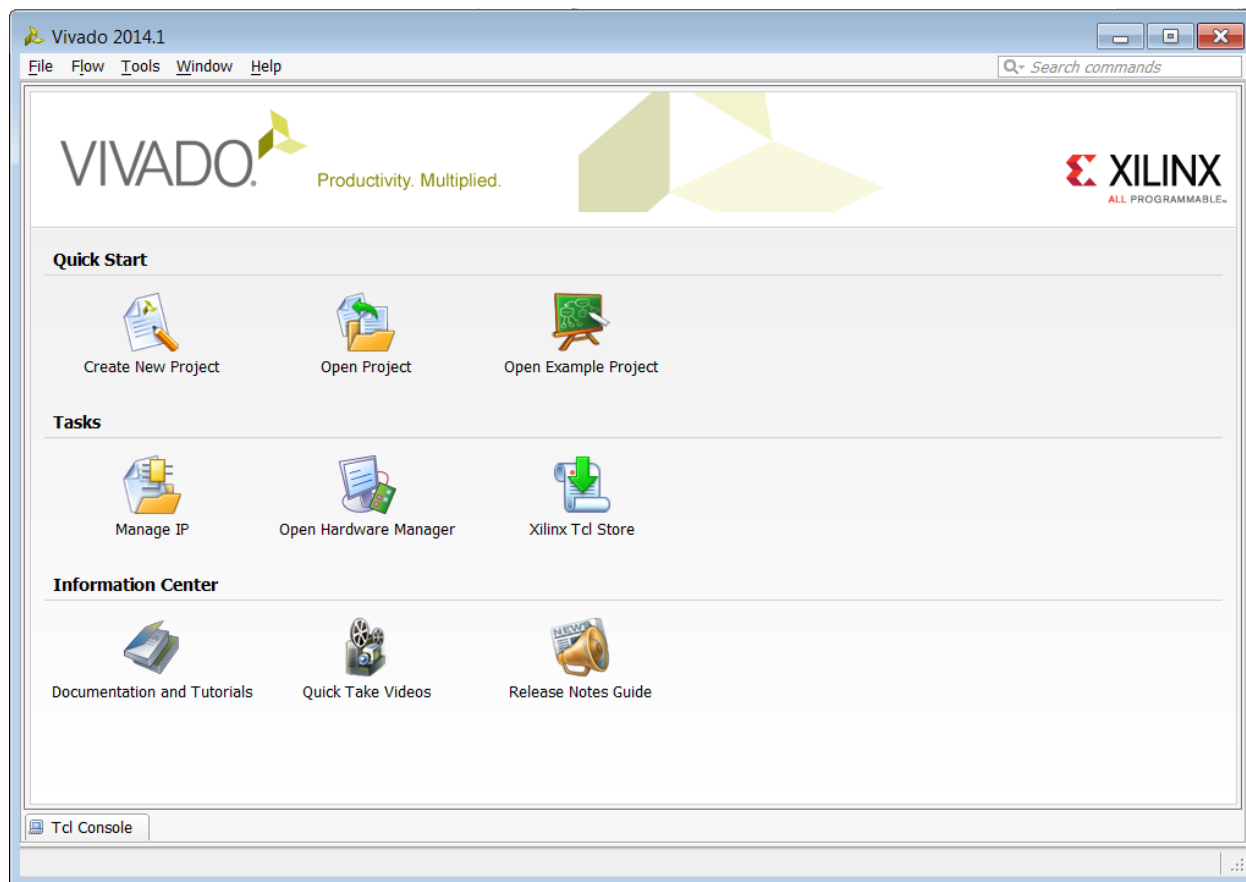

Figure 185: Create a Vivado Project
2. From the Welcome screen, click **Create New Project** (Figure 185).